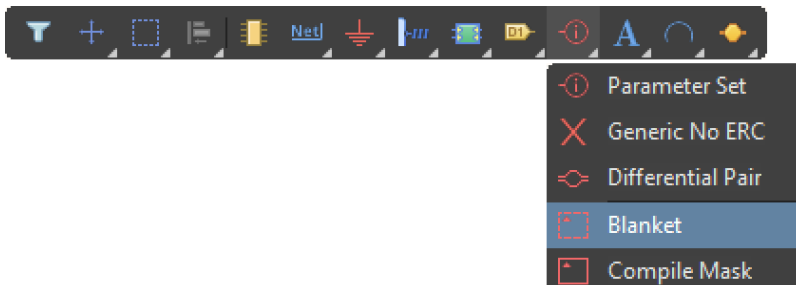
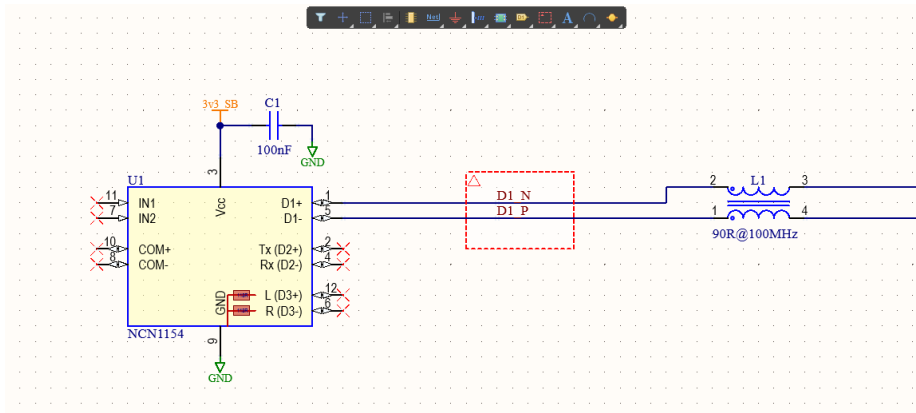

Figure 3. Blanket
Figure 4. Blanket Placement
8. From the *Active Bar* place a **Blanket** (Figure 3) over the net labels, the first left mouse click will anchor the blanket, now move the mouse diagonally across to cover the net labels, second left mouse click to size the blanket, finally right mouse click to finish the placement. The finished placement should look like Figure 4.